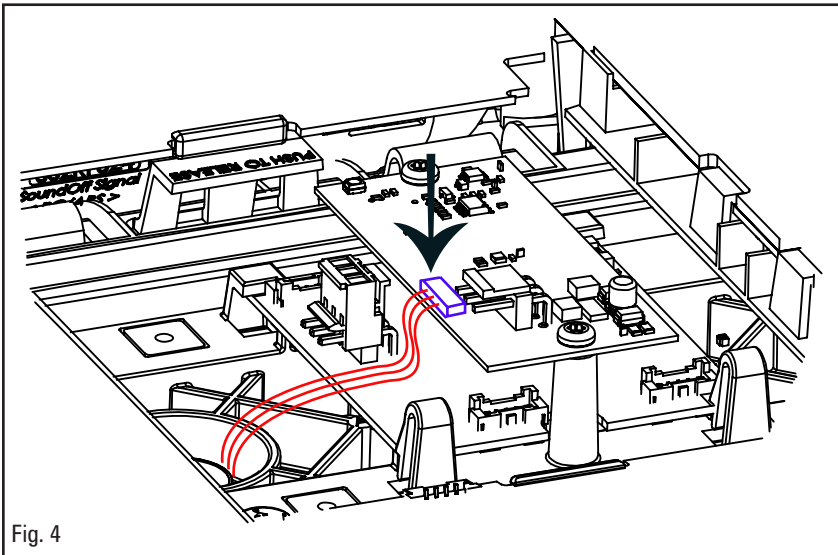

Fig. 4
6. Plug end of 3 wire harness into the light sensor board as shown in Figure 4.